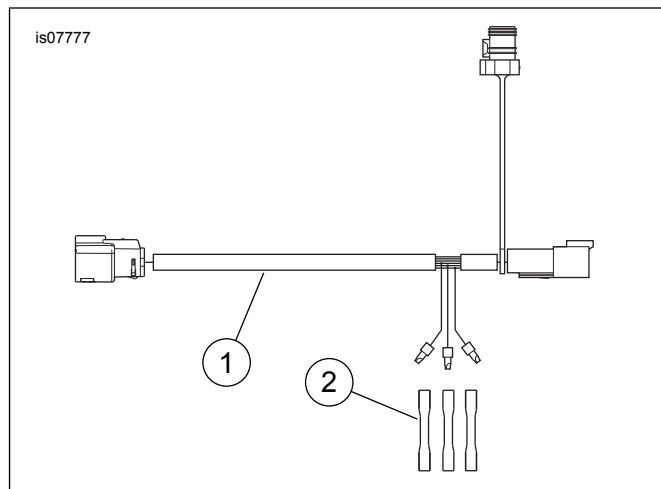

Figure 1. Service Parts, Electrical Connection Harness
See Figure 1 and Table 1.
2. **Accessories with a four-way Deutsch socket power connection** plug directly into the Electrical Connection Harness or Electrical Accessory Adapter. **Accessories connecting to power with three individual wires:** See Figure 1. Cut the wires of the accessory (or accessories) to a suitable length to reach the three individual wires on the Electrical Connection Harness easily. Cut the wire caps from the three wires on the harness.